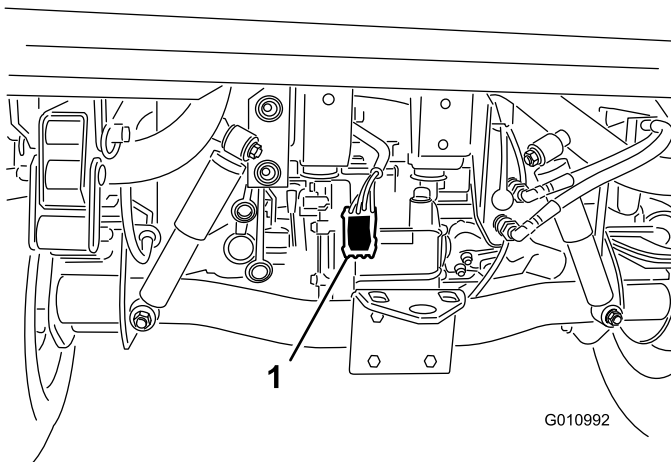

Figure 7
4. Route the wire harness alongside the main vehicle wire harness to the rear of the vehicle (Figure 7).